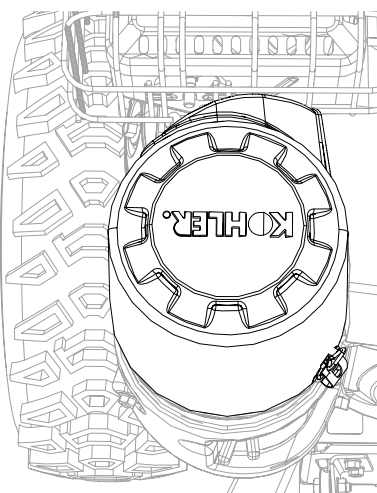

Figure 16
2. Rotate cover to the winter/cold-weather position or summer position. See Figure 16.